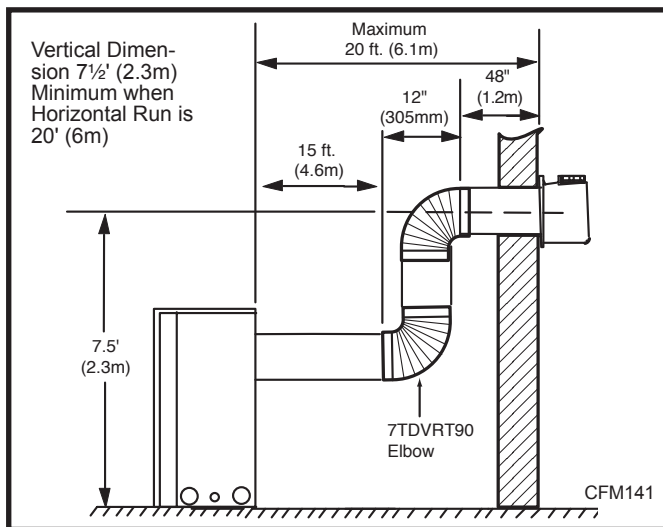

Fig. 18 Maximum number of 90° elbows is three.
- The maximum horizontal vent run is 20' (6 m) when the vertical vent rise is 7½' (2.3 m). (Fig. 18)